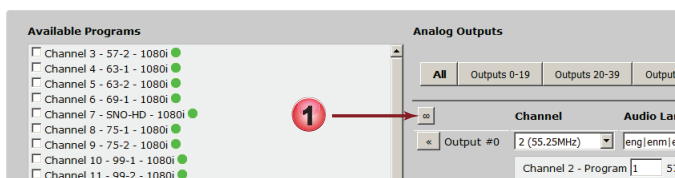

Figure 6-9: Quick Settings Access
1. Click the **Quick Settings** link  (the infinity symbol) in the Header bar, Figure 6-9.